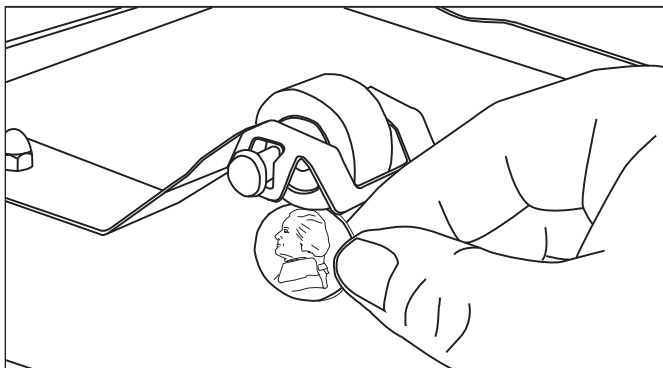

Figure 10. Measuring Roller Tensioner
1. Measure the Roller Tensioner on both inner Conveyor Covers (Figure 10) using a U.S. Nickel.